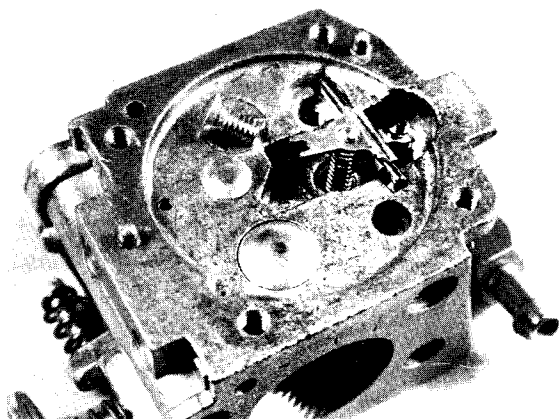

Fig. 62 — Inlet Needle, Lever and Pin in Place with Retaining Screw Removed
5. Remove screw and lift out lever, pin, spring and inlet needle, Fig. 62.